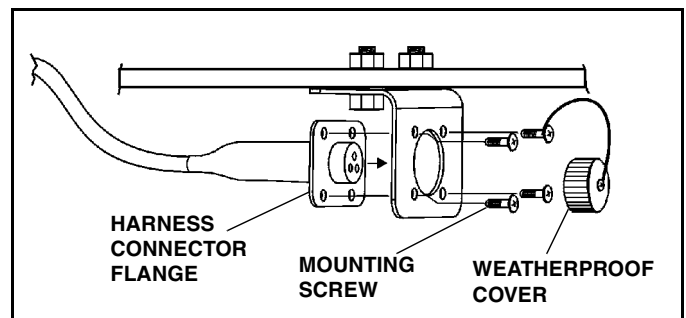

Figure 1-3
3. Install four screws through bracket into harness connector flange and tighten. One of the screws will also fasten the strap for the weatherproof cover. (See Figure 1-3)